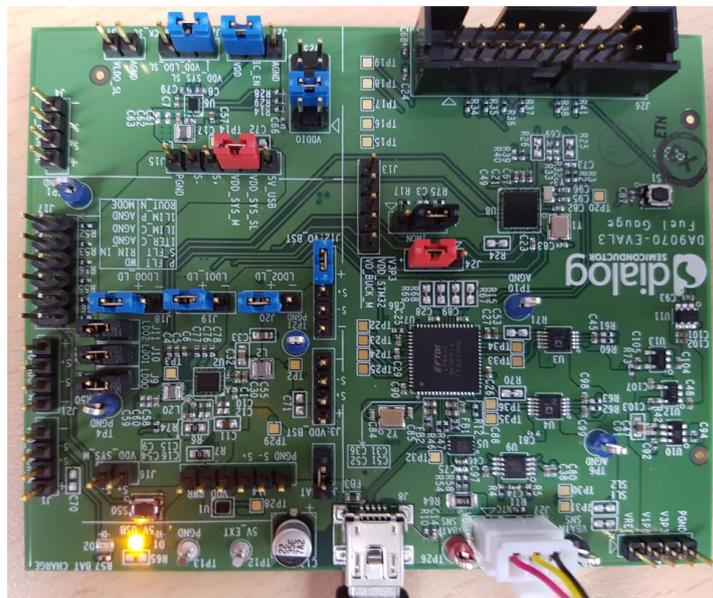
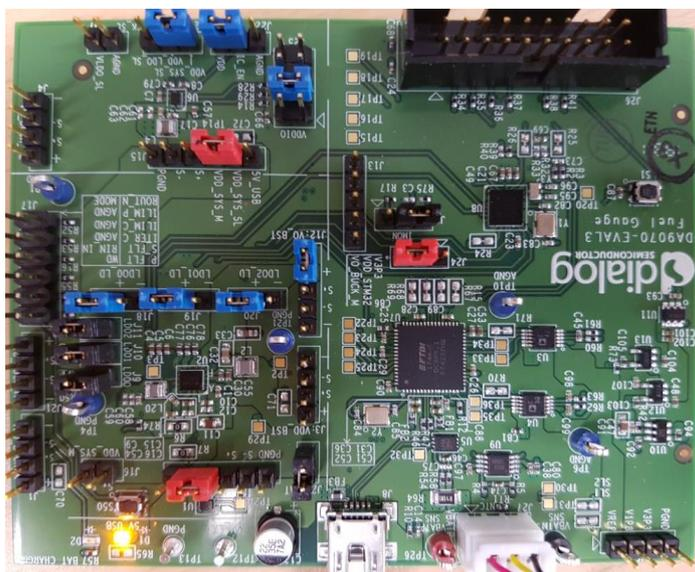

Figure 10: FG Board with Battery and USB Cable Connected
Figure 18: Jumper Configurations for Battery Profile and Performance Test
The prepared battery must be connected to **J27** and then connect the USB cable to the PC. Figure 10 shows the board with battery and USB cable connected.
5. Connect the jumpers of **J2** again, see Figure 10.
1. Confirm the jumper configurations of the board, see Figure 10.
Figure 18 shows the jumper configurations required for battery profile on DA9070 FG demo board. A difference from Figure 10 is the connection of (2) and (3) of **J14**.
The jumper configurations are the same as for the battery profile, see Figure 18. Please confirm the default jumper configuration shown in table 1 and that J14 has (2)-(3) pin connection.